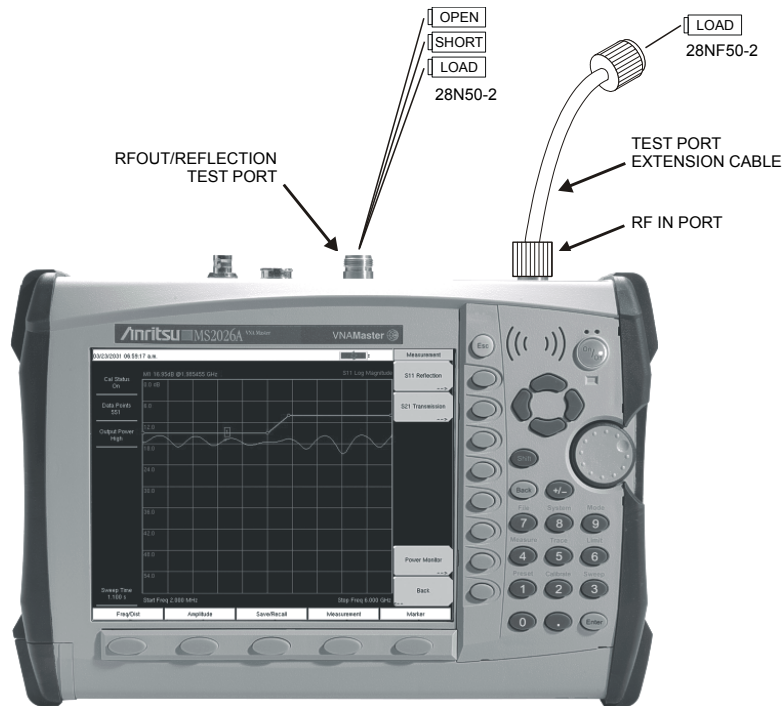

Figure 1. OSL-Thru-ISOL Calibration Setup
5. Press the **Shift** key, then press the **Sweep** (3) key.
10. Press the **Shift** key, then press the **Calibrate** (2) key.
12. Press the **Start Cal** soft key and follow the on screen instructions to perform an OSL-THRU-ISOL calibration using the 22N50 Open/Short, 28N50-2 and 28NF50-2 Terminations, and the 15NN50-1.5C Test Port Extension Cable (refer to Figure 1).